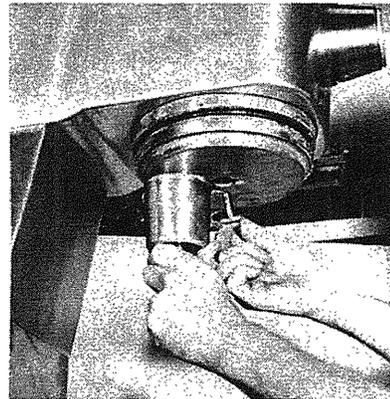

Fig. 2-3
- C. Remove retaining screw, lock-washer, and planetary washer (Fig. 2-3) while supporting the assembly.